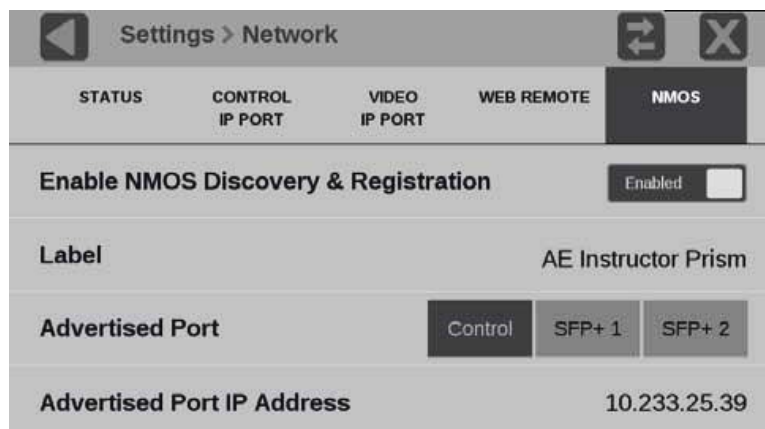

Figure 52: NMOS discovery and registration enabled
3. Slide the Enable NMOS Discovery & Registration control to **Enabled** or **Disabled**. (See Figure 52.)